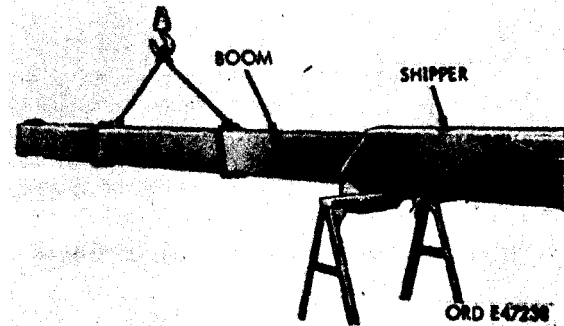

Figure 450. Removing boom from shipper
- (b) Pull boom from shipper only far enough to attach a chain sling. Attach chain to an overhead hoist and remove boom from shipper (fig. 450).